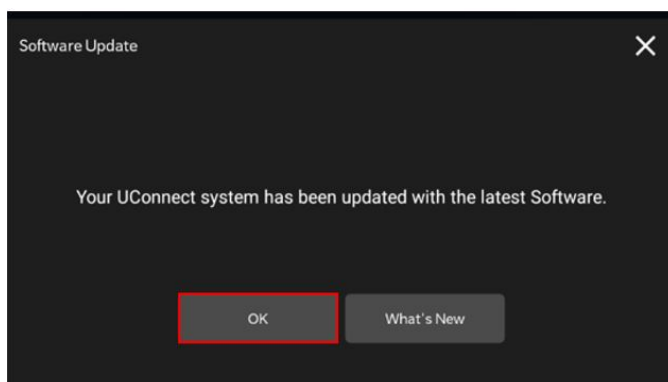

Fig. 8
22. Press “**OK**” to continue Fig. 8.